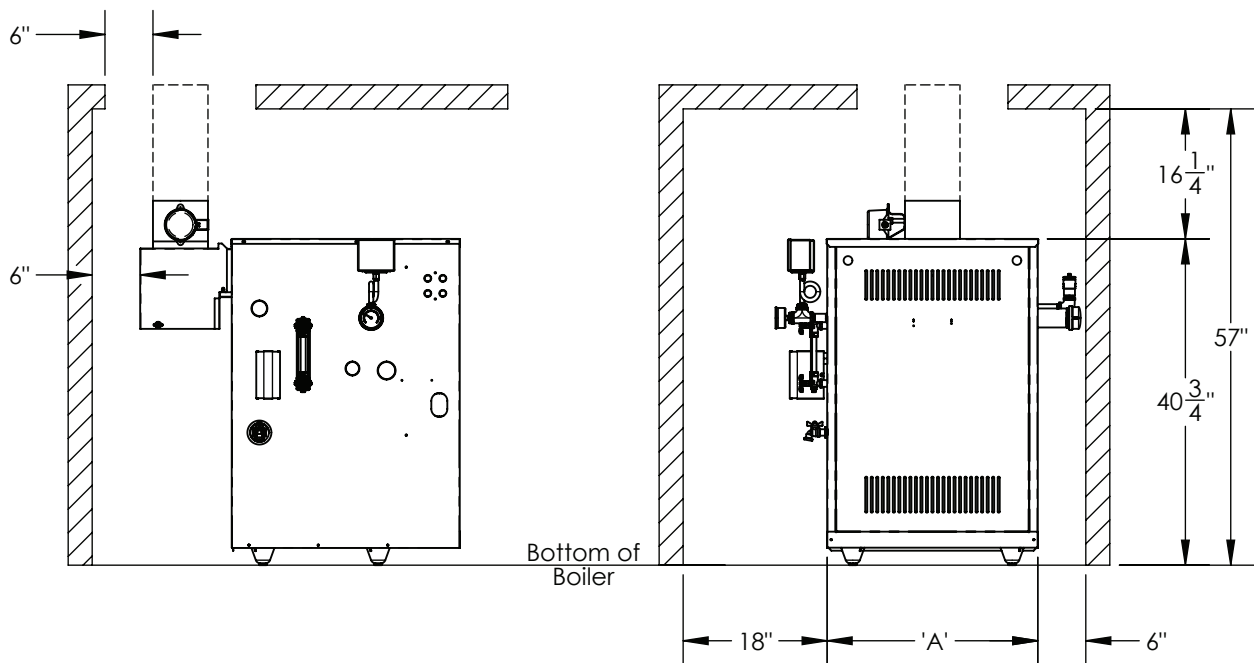

Figure 4-2: Minimum Alcove Clearances 49-075S through 49-299S
1. Provide clearances between boiler jacket and combustible material in accordance with authority having jurisdiction. Minimum clearances to combustible material shown in Figure 4-2 and 4-3.
- Maintain clearances to vent piping and draft hood per Figures 4-2 and 4-3.
1. Locate boiler as close to chimney as possible. See Figure 4-2 and 4-3 for minimum clearances.
- A. See Figure 3-4 for vent sizes and locations. See Figure 4-2 for clearances.